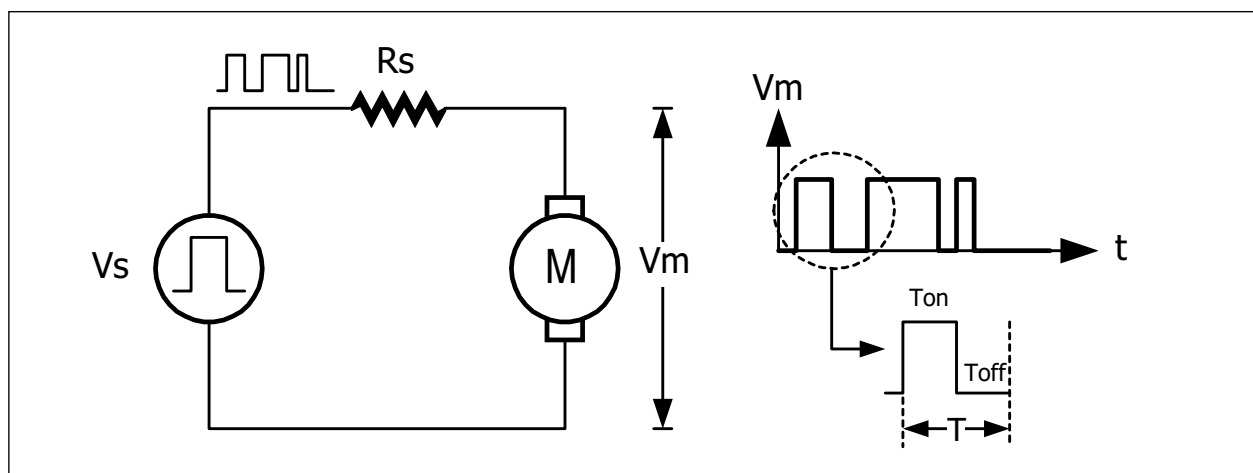

Figure 5-1 : The PWM signal for driving DC motor
Refer Figure 5-1, the V_s supplies PWM signal to DC motor. The speed is dependent on T_{on} time (ON time of motor). At this time, DC motor will receive the full voltage; V_m . If T_{on} 's width is more, DC motor is received more voltage. It rotate in high speed. The ratio of T_{on} time in percentage with period (T) is called Duty cycle. You can calculate this as follows :